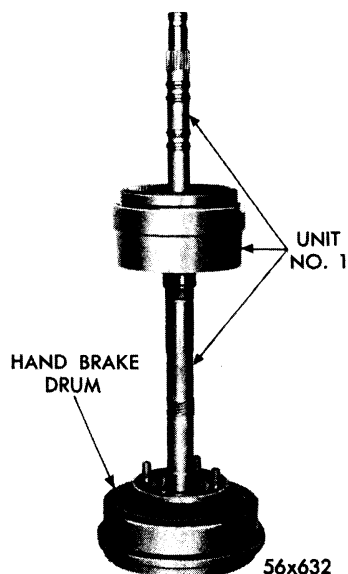
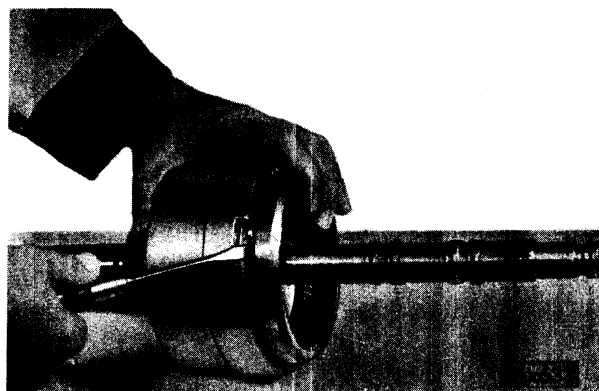
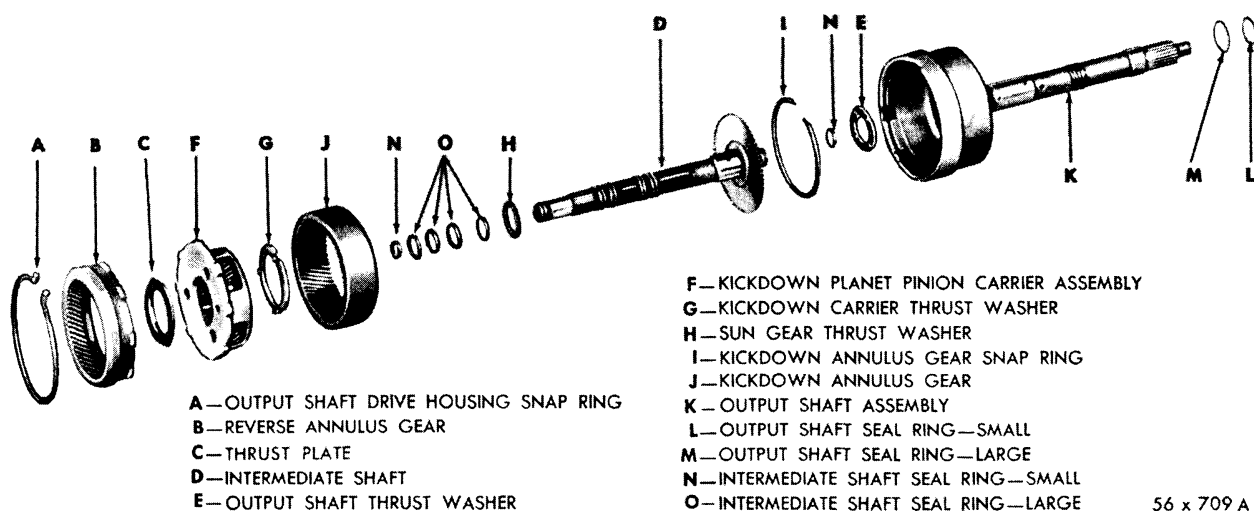

Fig. 75—Using Propeller Shaft Flange and Brake Drum Assembly (As a Holding Fixture for Unit No. 1)
Fig. 76—Removal and Installation of Output Shaft Drive Housing Snap Ring
Fig. 77—Unit No. 1 (Disassembled View)
Unit can be placed in the propeller flange and brake drum assembly to aid in disassembly, as shown in Figure 75. Using a screw driver, remove output shaft drive housing snap ring, as shown in Figure 76. Refer to Figure 77 and complete disassembly of unit as follows: Remove reverse annulus gear (B) from output shaft assembly (K). Remove thrust plate (C) from kickdown planet pinion carrier. Remove intermediate shaft (D) and kickdown carrier assemblies (F) from output shaft assembly. Remove output shaft thrust washer (E) located inside of housing. Remove kickdown planet pinion carrier assembly (F) from intermediate shaft assembly (D). The kickdown planet pinion carrier assembly used in this unit is identical to the low-reverse planet pinion carrier assembly used in Unit No. 2 but should not be interchanged. Remove kickdown carrier thrust washer (G) from carrier assembly (F). Remove sun gear roller thrust washer (H) from intermediate shaft assembly. With a screw driver, remove kickdown annulus gear snap ring (I) and separate gear (J) from intermediate shaft assembly (D).